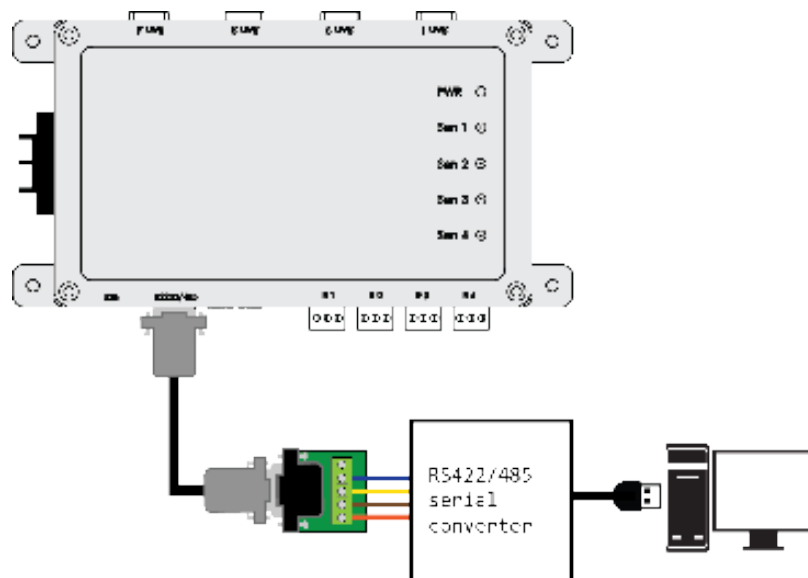

Figure 8. Diagram RS485 Serial connection through control box using and serial converter to PC
5. Connect the cable from RS485 serial output on the control box to converter as in figure 8.